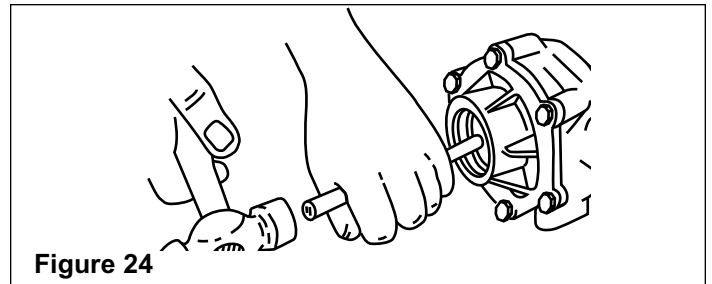

Figure 24
1. Place short brass rod (or hardwood dowel) against end of shaft (Figure 24). Center rod on shaft (not on bearing). Tap lightly with hammer. Try turning shaft again.